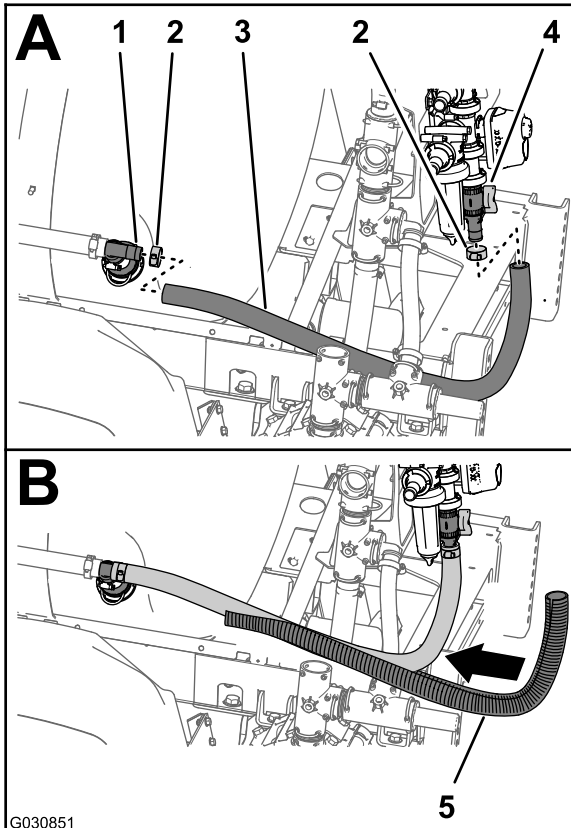

Figure 103
1. Assemble the hose (1 x 41 inches) to the barbed T-fitting at the rear agitation nozzle in the sprayer tank (Figure 103).
2. Secure the hose to the T-fitting with the clamp (Figure 103) that you removed in step 2 of Removing the Agitation Valve, Ball Valve, and Hoses (page 32).
3. Assemble the other end of the hose (1 x 41 inches) onto the straight barbed fitting at the bottom of the bypass valve (Figure 103).
4. Secure the hose to the straight fitting with a hose clamp (Figure 103) that you removed in Disassembling the Agitation and Bypass Valves (page 33).
5. Assemble the convoluted tubing (Figure 103) over the hose (1 x 41 inches).